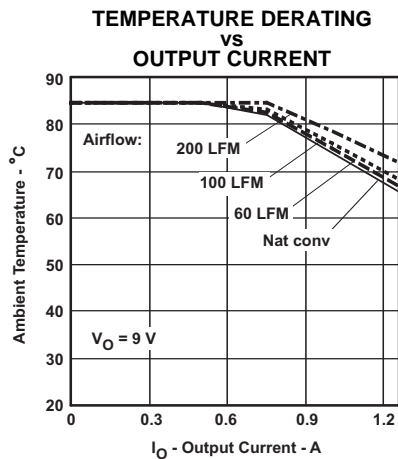
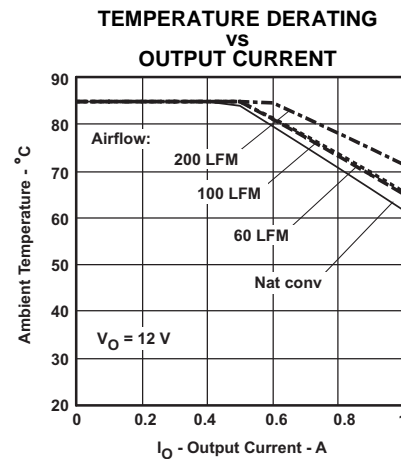
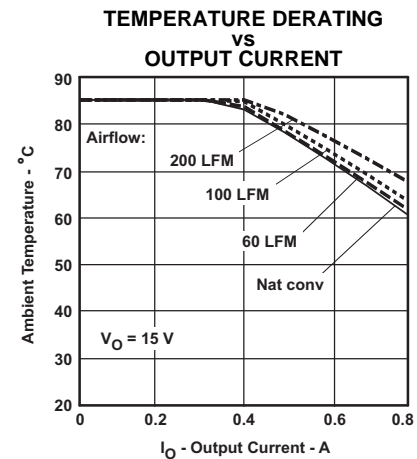

Figure 11.
Figure 12.
Figure 13.
- (2) The Safe Operating Area curves represent the conditions at which internal components are at or below the manufacturer's maximum operating temperatures. Derating limits apply to modules soldered directly to a 100-mm x 100-mm, double-sided PCB with 2 oz. copper. Applies to Figure 11, Figure 12, and Figure 13.